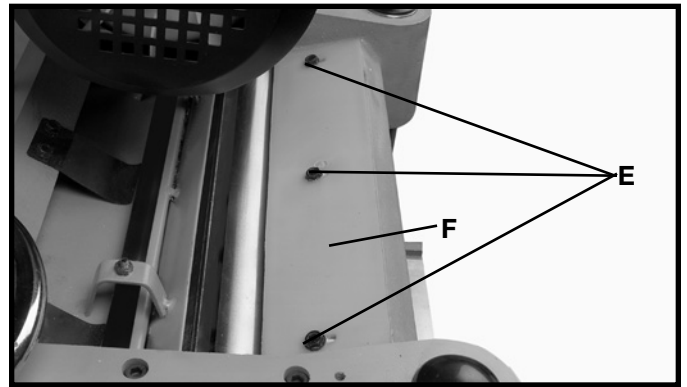

Fig. 34
4. Remove the three screws (E) Fig. 34, and remove the chip deflector (F).